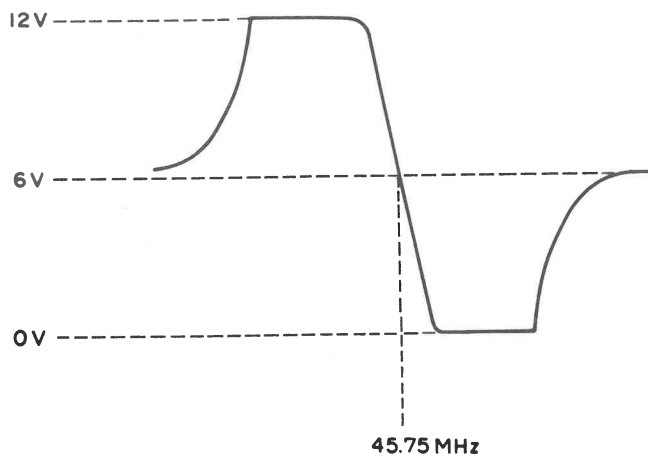

Fig. 13 AFT Adjustment
## AFT Adjustment (Fig. 13)
6. Adjust the *AFT* control (L806F) as shown in Fig. 13.